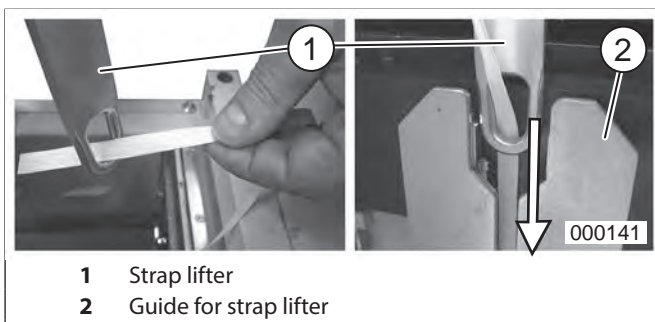

fig. 24 Strap lifter
2. Open the inlet flap and remove both strap lifters (fig. 24/1).
6. Loosen the strap end from the pull cable as shown, feed it through the strap lifter (fig. 24/1) and set the strap lifter back into place at the baling ram (fig. 24/2).